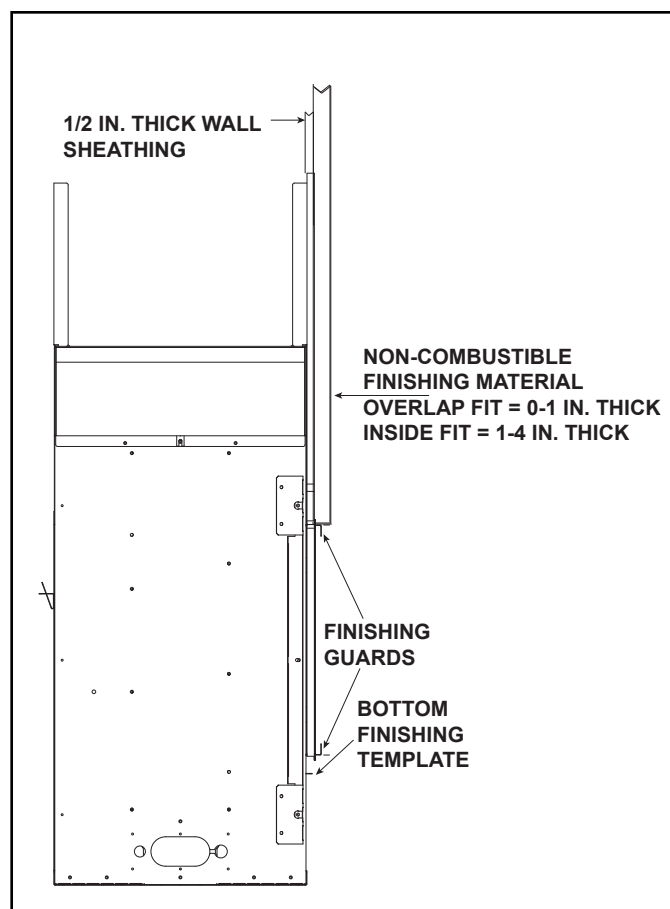
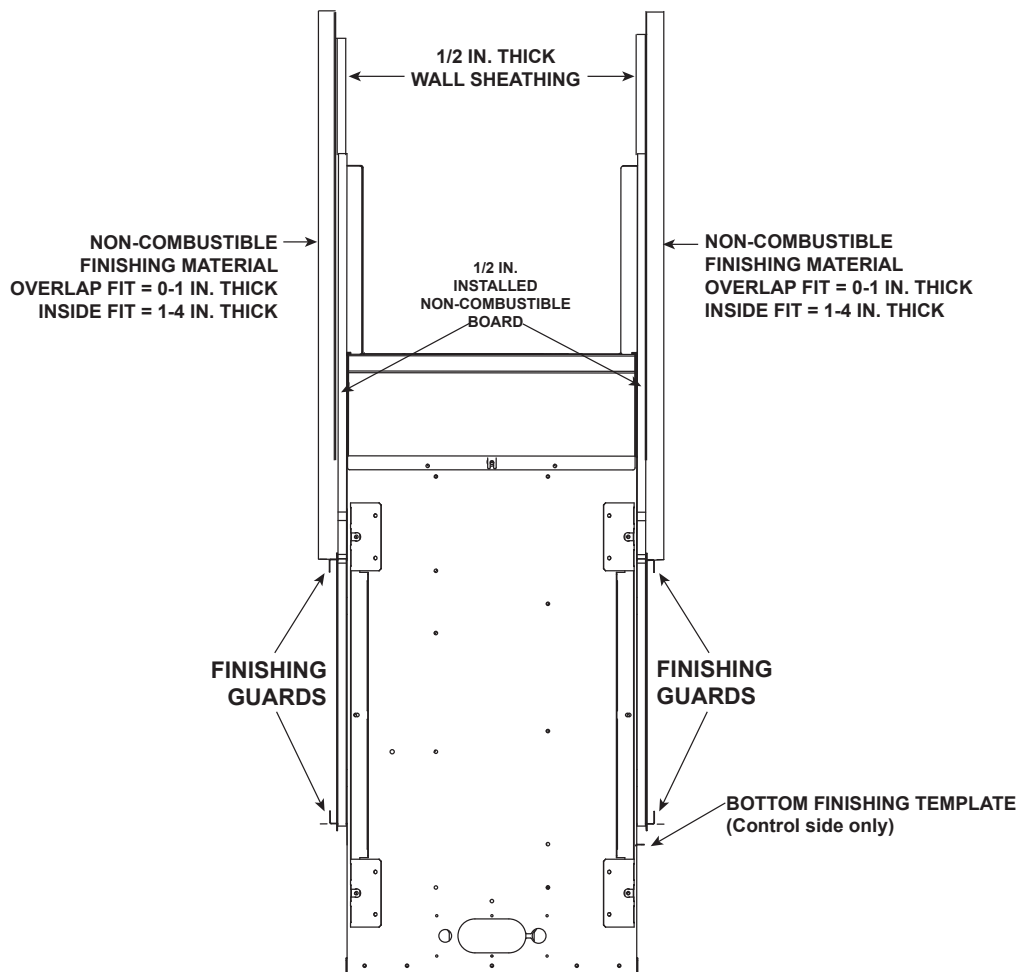

Figure 10.2 Finishing and Facing Materials - Single-Sided Models
Figure 10.3 Finishing Materials - See-Through Models
Decorative facing material thickness is measured from the face of the installed non-combustible board. See Figure 10.2 and Figure 10.3.
The fronts for this appliance are compatible with non-combustible materials. See Figure 10.2 and Figure 10.3.
Installation of finishing materials can be accomplished by either the “overlap” or “inside-fit” method, depending on what type of decorative barrier front is to be installed. See Figure 10.2 and 10.3. Overlap fit decorative barrier fronts include the Quattro and Loft Forge. The Clean Face Trim Front (CFT) can be either an inside fit or an overlap fit. See Table 1.
- 1. Remove bottom finishing template from bottom access panel. Verify that factory-installed finishing guards are installed to ensure finishing material does not extend into the fireplace opening. See Figure 10.2 and 10.3.
1. Remove bottom finishing template from bottom access panel. Verify that factory-installed finishing guards are installed to ensure finishing material does not extend into the fireplace opening. See Figures 10.2 and 10.3.